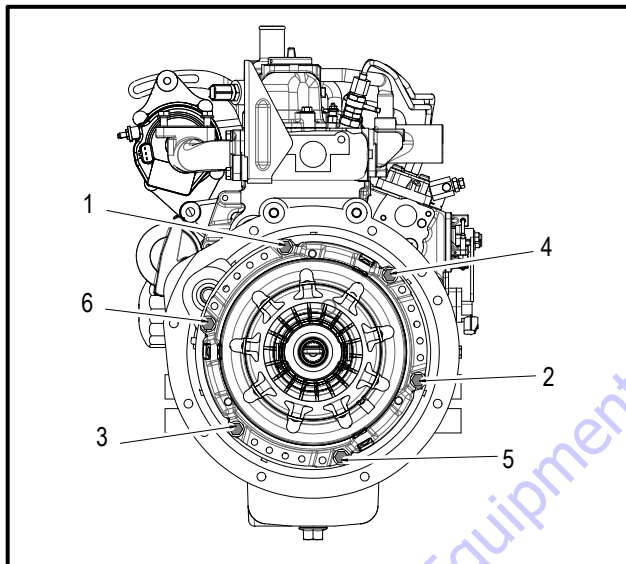

Figure 3-66. Clutch Plate Torque Sequence
3. Using the pattern shown in Figure 3-66., Clutch Plate Torque Sequence, work back and forth around the clutch turning each bolt not more than 3 turns before turning the other bolts to a similar level. Stop when the pressure plate contacts the flywheel adapter. Do not apply final torque.